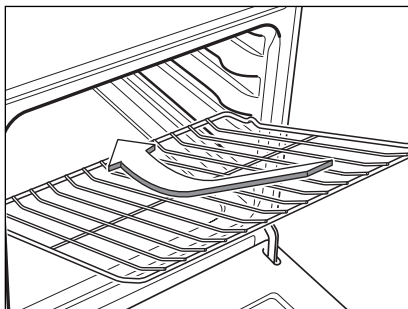

Figure 28 Correct position of shelves
- Slide in the shelves and grill pan as shown in Fig. 28, with the safety stop notch up and at the back.